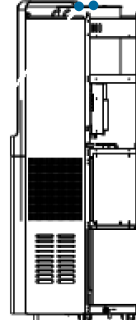

Figure 11 ·
4. Lift the lid of the tank up (Figure 11).